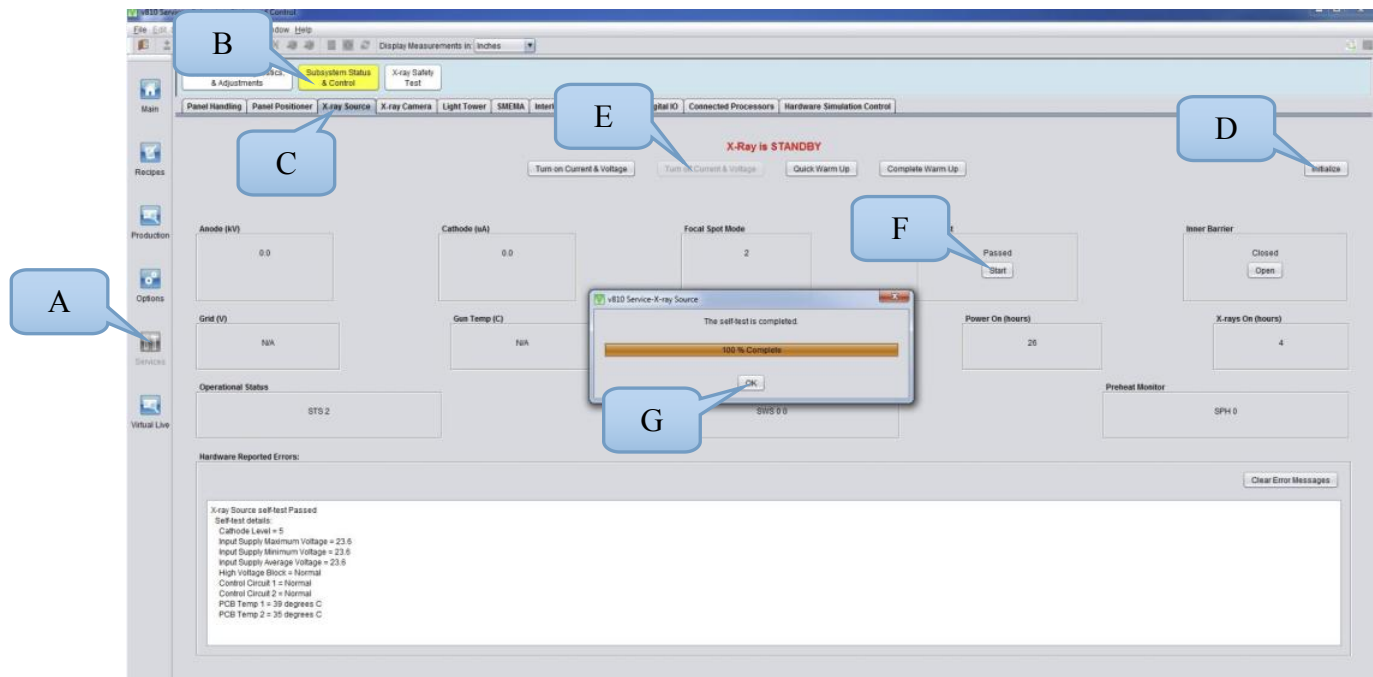

Figure 15
17. Open the V810 software and run X-ray Self-Test as shown in Figure 15. Print Screen entire page and provide to ViTrox AXI Support team